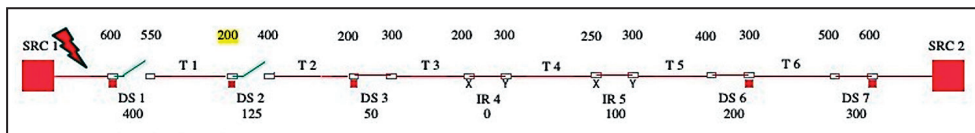

Figure 19. Switch DS3 is closed and team T2 is assigned 25 A real capacity.
- STEP 7.** Disregarding all other restoration logic, switch DS3 is allowed to close followed by switch DS3 reducing the alternate source real capacity by the load being restored. Team T2 is assigned the updated real capacity of $(100 - 75 =) 25$ A. See Figure 19.